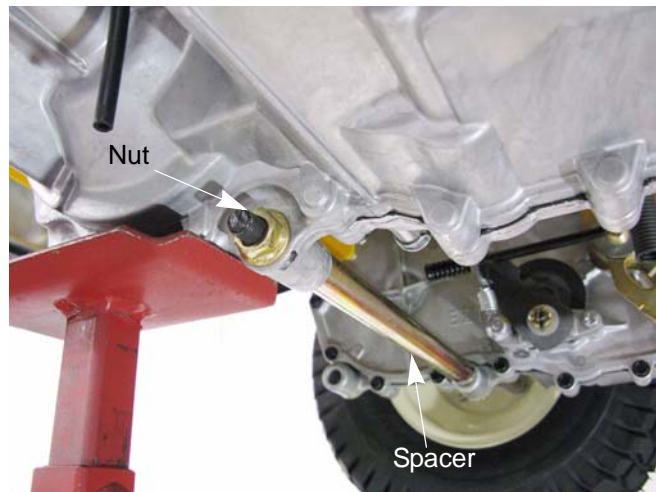

Figure 4.28
9. Remove the nut, T-bolt and spacer that connect the transmissions to each other using a 1/2" wrench and an 11/16" wrench. See Figure 4.28.